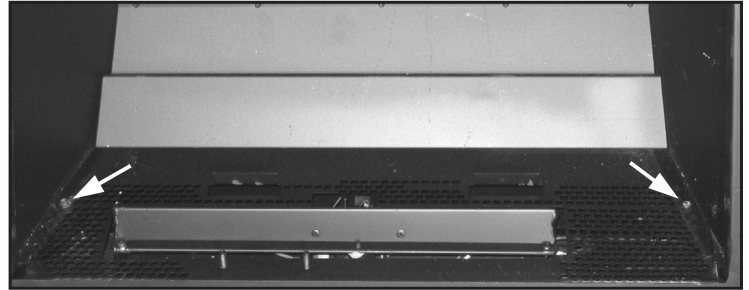
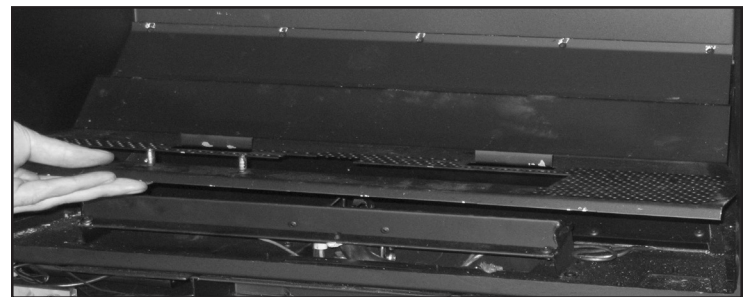

Figure 21: Screws Holding Burner Tray in Place.
Figure 22: Removing Burner Tray.
3. Using a T-20 screwdriver remove the two (2) screws that hold the burner tray in place (pointed out in Figure 21). Pick up the burner tray at the front (see Figure 22) then pull it out of the firebox.